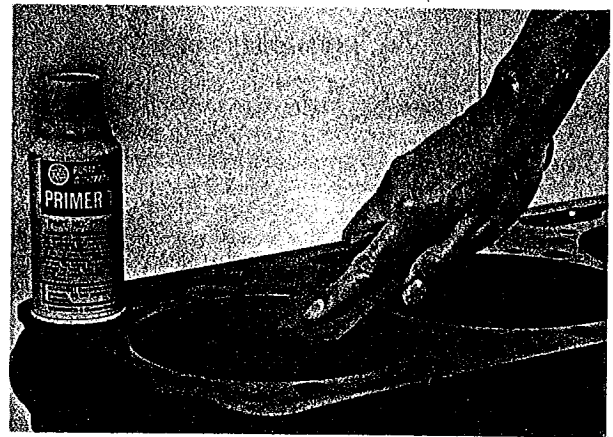

Fig. 11 Cleaning Bore with Primer-T
1. Clean the bore and bushing outside diameter thoroughly with PT-7270 PRIMER-T. (See Fig. 11).